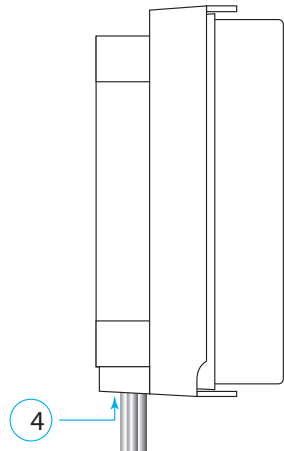

Fig. 7
4. Verify all the IB7000 cables exit through the opening at the cover bottom before pressing in on the cover to close. The cover will snap securely into place (Fig. 7).